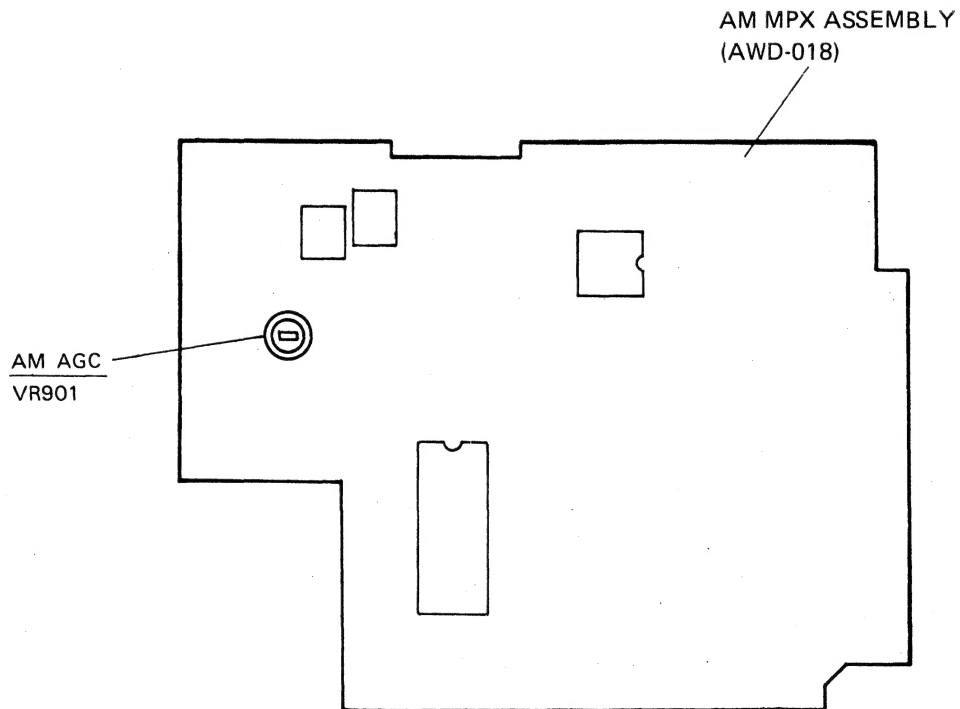

Fig. 5-1 Adjustment position
*VR901 is in AM MPX assembly (AWD-018) (See Fig. 5-1)